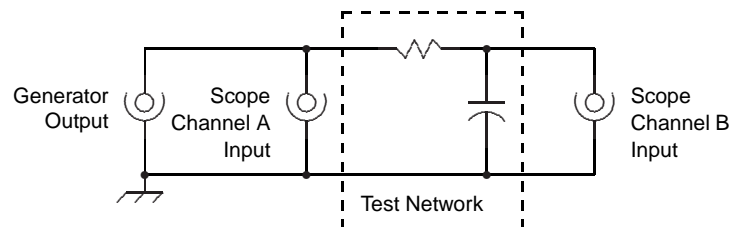
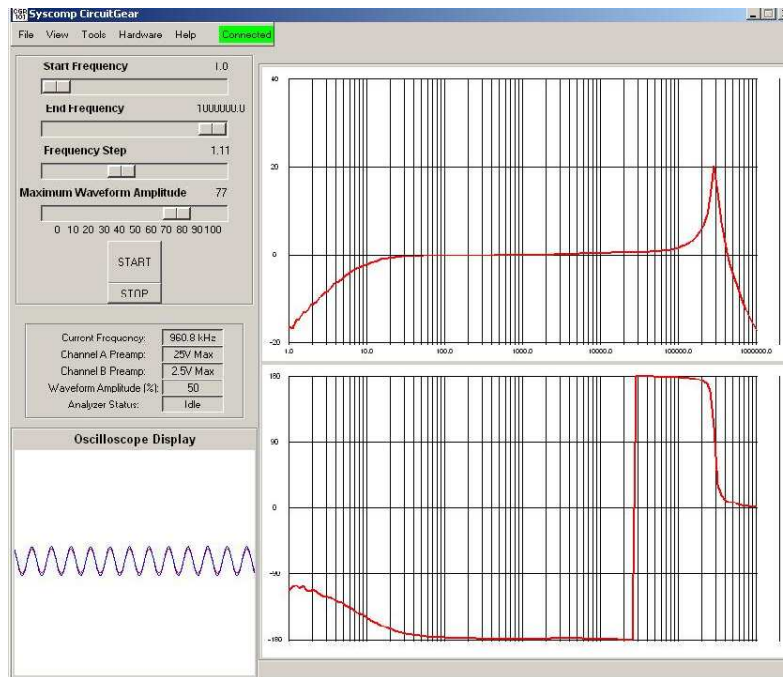

Figure 7: Network Analyser Wiring
Figure 6: Vector Network Analyser
Figure 6 shows a screen shot of a VNA plot of a single-pole RC lowpass filter. Figure 7 shows how the test circuit must be wired. Notice that there is no internal connection between the generator output and the channel A input.
- The amplitude dynamic range of the VNA is in excess of 50db. The VNA automatically adjusts the input signal attenuators of the oscilloscope section to obtain the best possible signal-noise ratio without clipping. It also uses the full 10 bit range of the oscilloscope A/D converters. In the frequency response plot of figure 6, the amplitude and phase plots become erratic at high frequencies. This occurs because the output signal from the low pass filter is extremely small in that region.